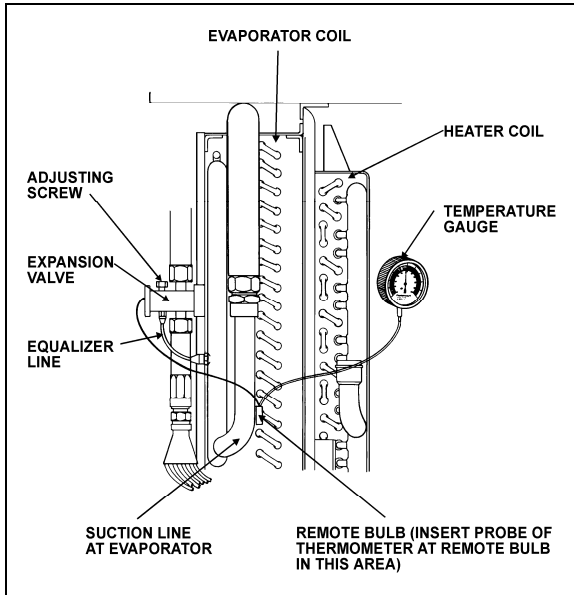

FIGURE 36: SUPERHEAT ADJUSTMENT INSTALLATION²²⁰⁴⁶
The starting method of adjusting the superheat is to unscrew completely the main evaporator expansion valve adjusting screw, then screw in 13 turns clockwise for 134A (Fig. 36). Afterwards, the following procedure should be followed:
3. Install a remote reading thermometer to the evaporator outlet line near the existing remote bulb (Fig. 36).